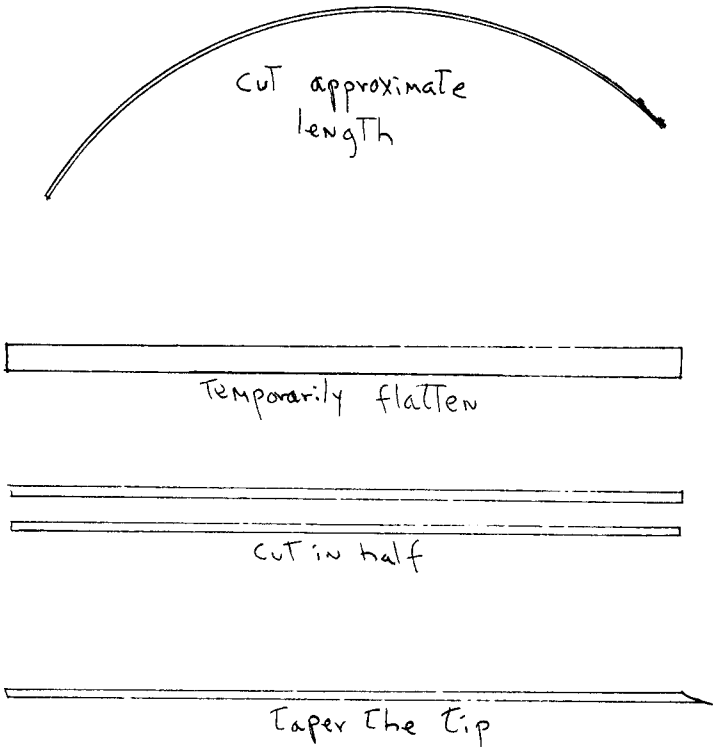

FIG 10
**SINGLE SHIM.** Take a strip of clockspring, approximately 3" to 3 3/4" long. 'Roughly' flatten it out, but not to the point where it is actually flat. The tension of the spring itself should insure this. Cut the strip in half, lengthwise, and smooth down the edges. At the tip, create an angle as was done with the piano wire shim. Since the edge roughness has been smoothed down, no handle will be necessary. FIG 10 illustrates the steps for this shim.